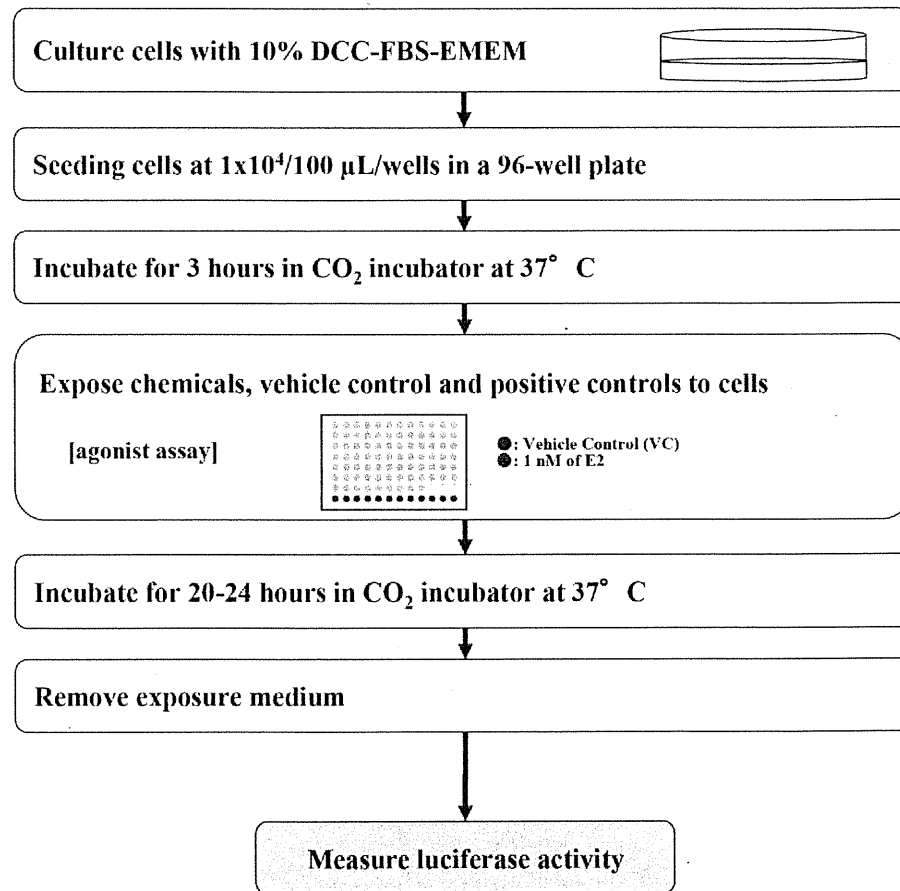
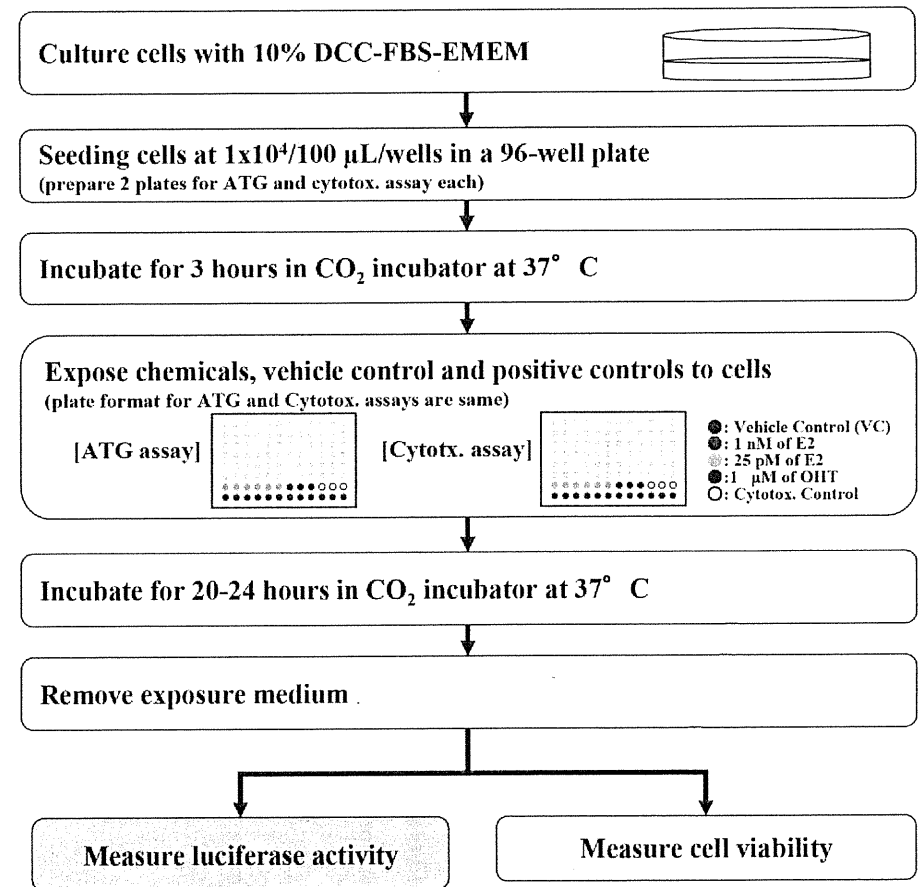

Fig. 2 Schematic Flow for the Estrogenic Assay
Fig. 3 Schematic Flow for the Anti-estrogenic assay
The scheme for the ER-STTA assay for estrogenic and anti-estrogenic assays is shown in **Fig. 2** and **Fig. 3**, respectively, and the summary of assay is provided in Table 1.
- Plate layout (see **Fig. 2** and **Fig. 3**)